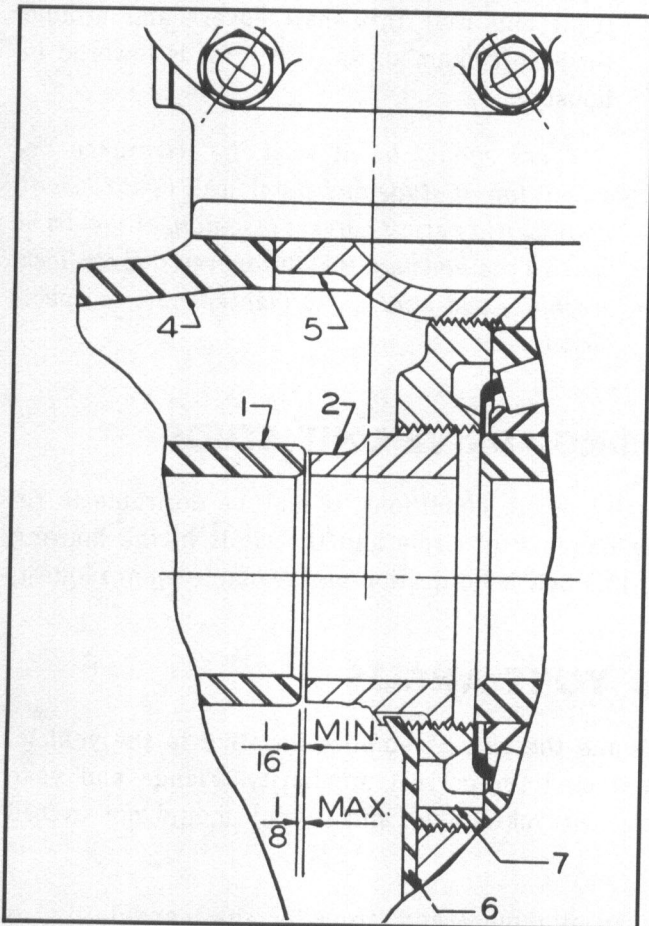

Figure 1
The drive units of some of the larger capacity axles are equipped with adjusting extension nuts 2, Fig. 1, which screw into the differential bearing adjusting nuts.
The extension nuts should be adjusted to maintain a minimum of $\frac{1}{16}$ " and a maximum of $\frac{1}{8}$ " clearance at the inner end of the axle housing sleeve 1, Fig. 1.
- A. Screw the adjusting extension nut 2, Fig. 1, into the differential bearing adjusting nut 7, Fig. 1.